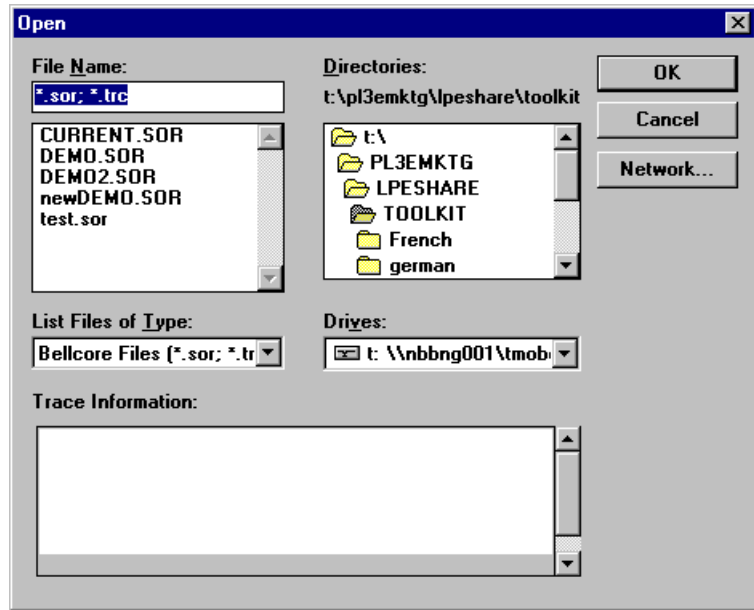

Figure 1-1 Open File - Trace Information
- 2 Click once on one of the file names. You see information about this file in the Trace Information window (Figure 1-1). This information includes the date and time when the trace was taken, and the range, pulsewidth, and wavelength used.